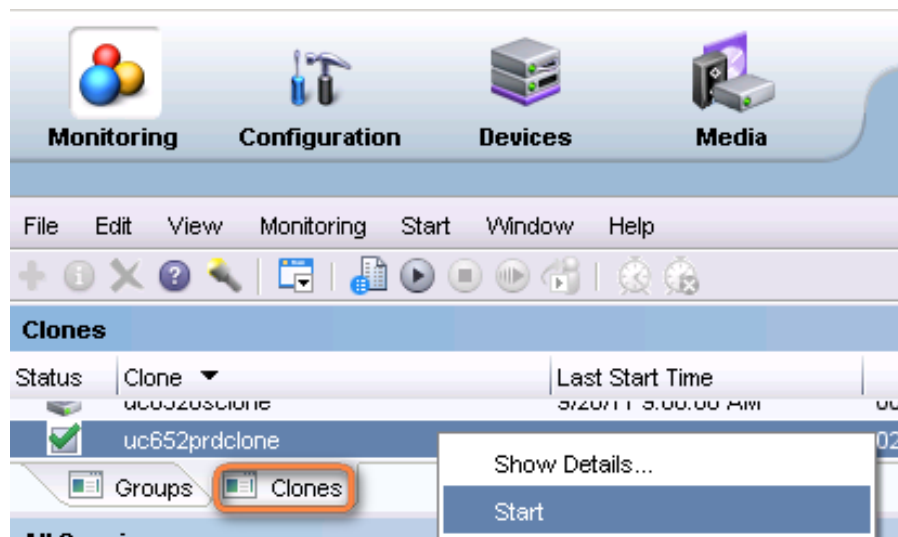

Figure 12. Start and monitor the Data Domain clone job
5. Review the Data Domain scheduled clone job in the **Monitoring** view as shown in Figure 12.